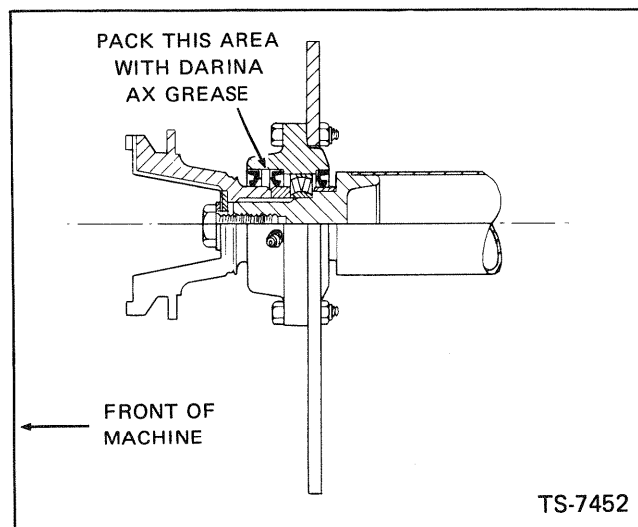

Fig. 13-5 Pillow Block
4. Pack the area behind the above remove seal with Darina AX grease. See Fig. 13-5 which illustrates the area to be greased.